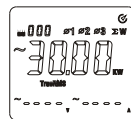

Figure 8-7
- As shown in Figure 8-7, total three-phase active power can be displayed by pressing SELECT key finally.